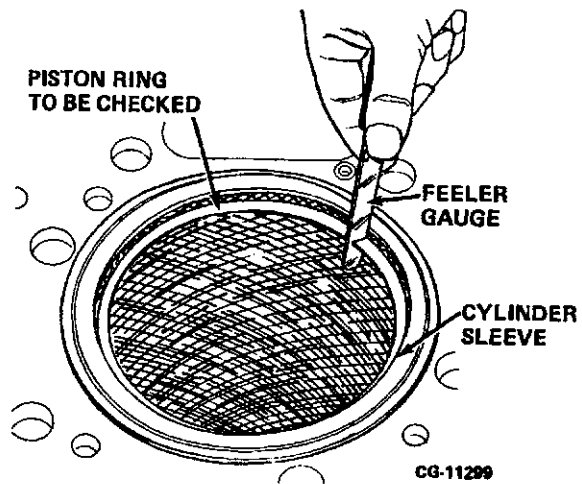

Figure 6.21. Check Piston Ring Gap
- b. Measure the gap between the ends of each ring with a feeler gauge as shown in **Figure 6.21**. Refer to "**SPECIFICATIONS**" for ring gap. Discard any ring which does not meet the specifications.